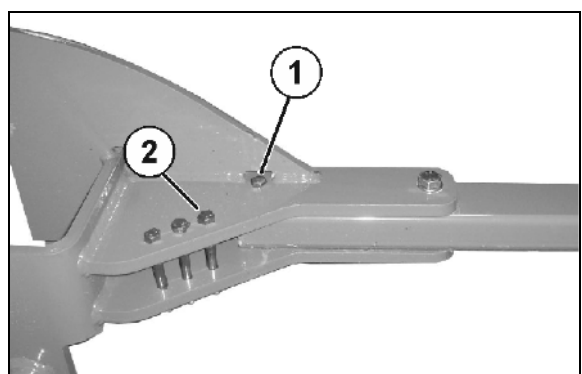

Fig. 36
- o Shear bolt (Fig. 36/1)
- o Spare shear bolts (Fig. 36/2)